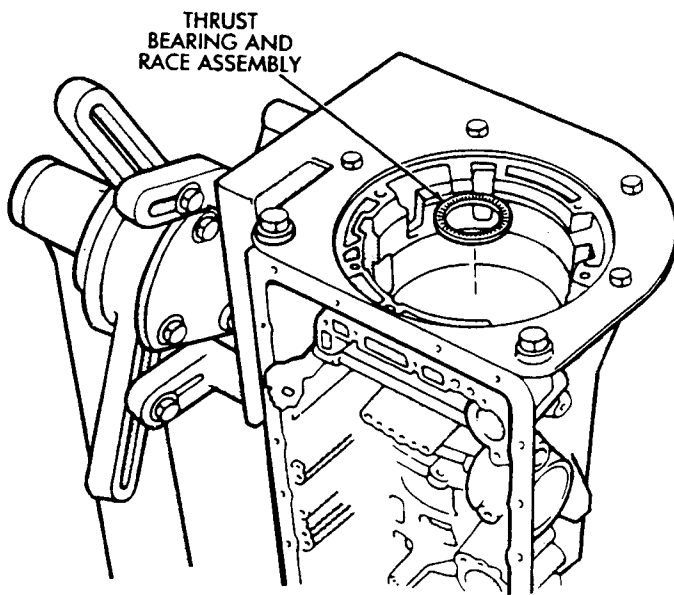

Fig. 47 Removing Planetary And Brake Drum Thrust Bearing And Race Assembly
(56) Remove planetary and brake drum thrust bearing and race assembly (Fig. 47).